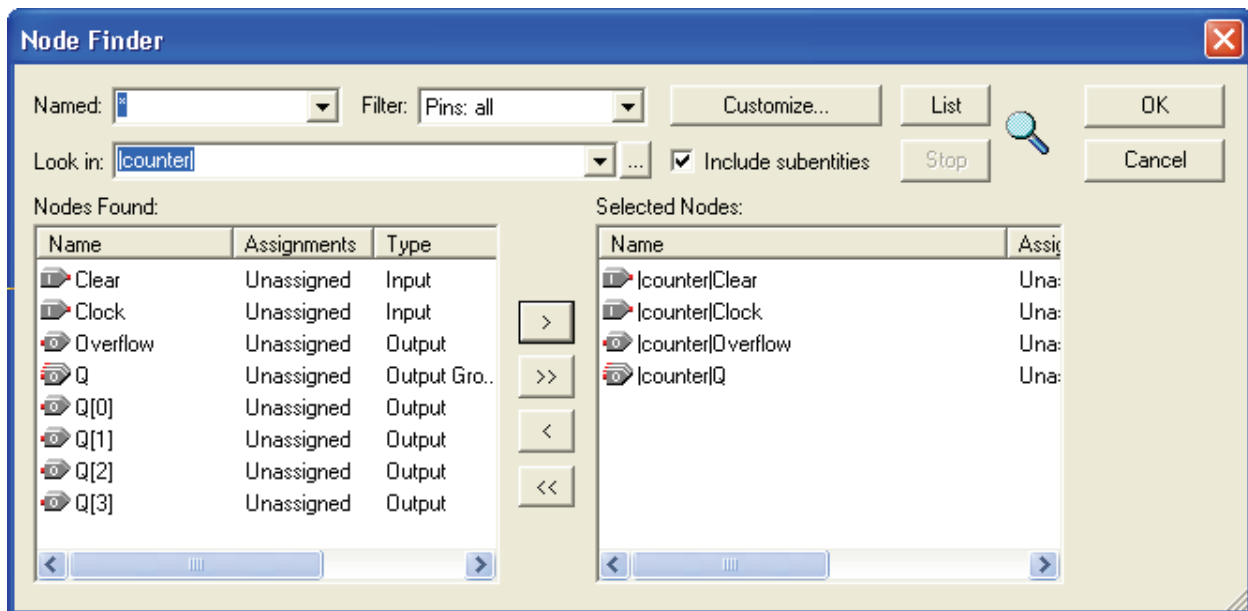

Figure B.6 The Node Finder window for adding input and output signals for simulation.
3. Make sure that the **Filter** selected is **Pins: all**. Click on the **List** button to list all of the available pins from your circuit design in the Nodes Found (left side) pane as shown in Figure B.6.